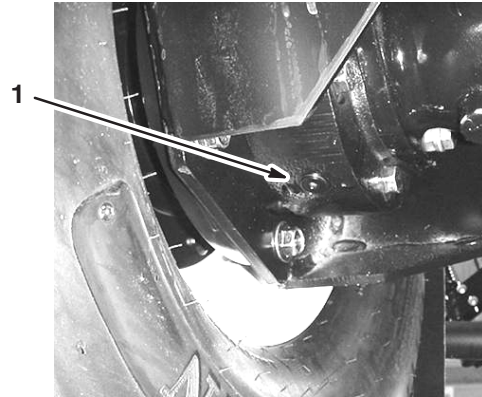

Figure 45
4. Place a pan under the inner drain plug and remove it (Fig. 45).